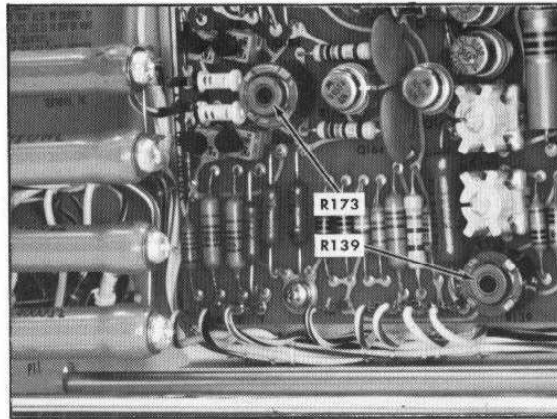

Fig. 6-6. Location of R173, (1 V Gain).
- Adjust R173 (1 mV Gain, Fig. 6-6) for a display amplitude of exactly 5 cm.